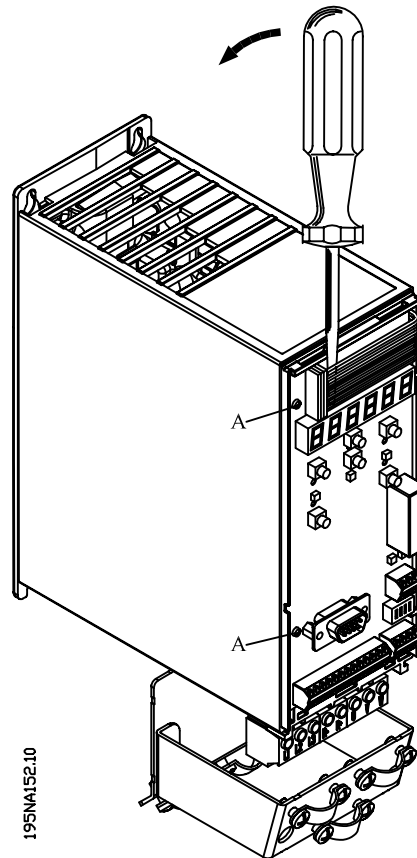

Fig. 4: To remove flat cable, place screw driver behind cable and pull gently
2. Lift the flat cable using the screw driver. Be careful not to touch the components on the control card. See figure 4 for instructions